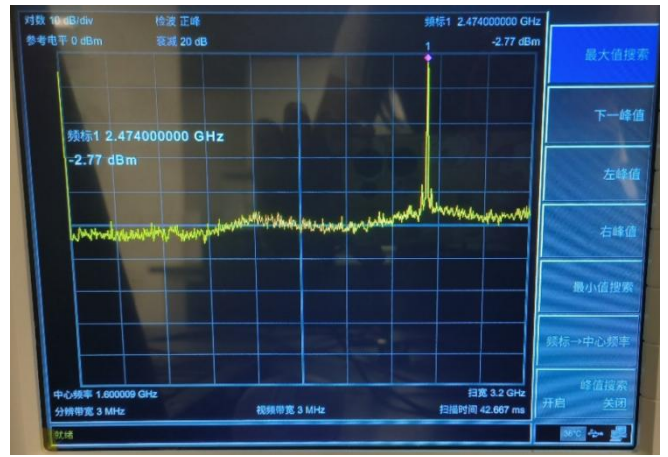

Fig. 6 Screenshot of the spectrum analyzer.
2. Adjust the VCO supply voltage using the potentiometer in your voltage regulator circuit from 5 V to 4 V. Record the VCO output frequency and power at each supply voltage. The screen of the spectrum analyzer should look similar to Fig. 6.